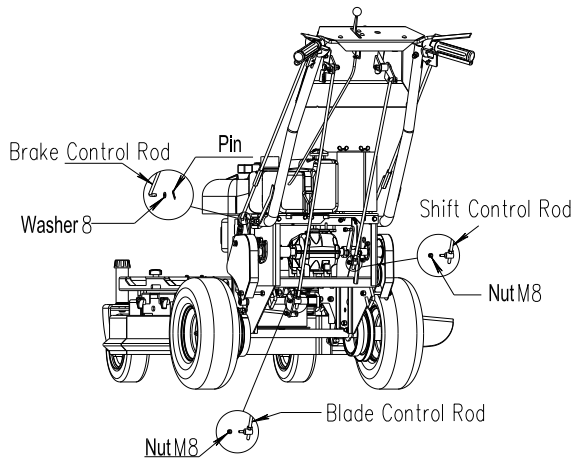

FIG 4
- Unfold the handle, and fix the handle with four M10×25 Flange Hd. Bolts and four M10 locknuts on each side as shown in FIG 4.
- Insert rod end connector threaded stud of left and right steering linkage rod assemblies through hole of left and right brake swing arms; add M6 nut and washer 8 and tighten. Next, insert rod end connector threaded stud of shift control rod assembly through hole of shift control arm; add M6 nut and washer 6 and tighten. To finish, insert rod end connector threaded stud of blade control rod assembly through hole of tension swing arm; add M6 nut and washer 6 and tighten. See FIG 4